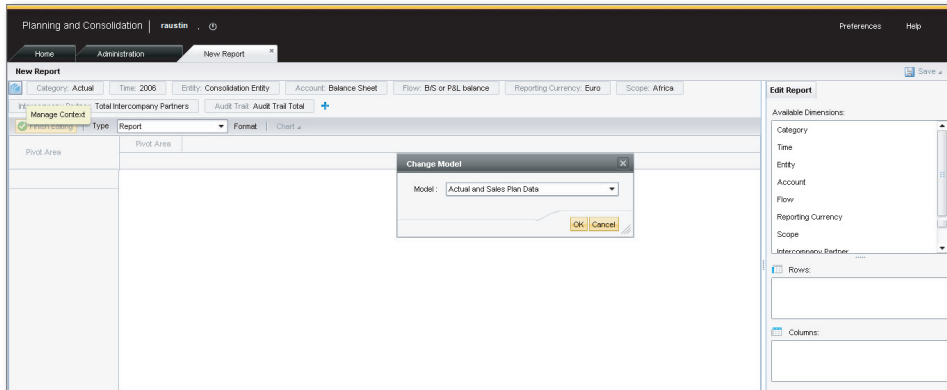

Figure 5.32 Creating a Web Report—Part A
2. Click on the MANAGE CONTEXT icon in the upper left to set the model for which you want to create a report (Figure 5.32). This opens a dialog box titled CHANGE MODEL. Select the desired model from the dropdown list.